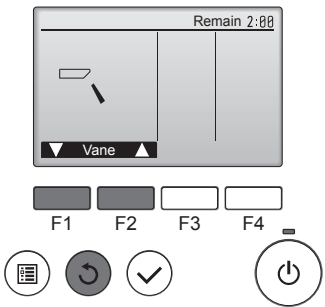

Fig. 6-6
- ① Check the auto vane with the **[F1]** **[F2]** buttons. (Fig. 6-6)
- ② Press the **[↺]** button to return to "Test run operation".
- ③ Press the **[⏻]** button.